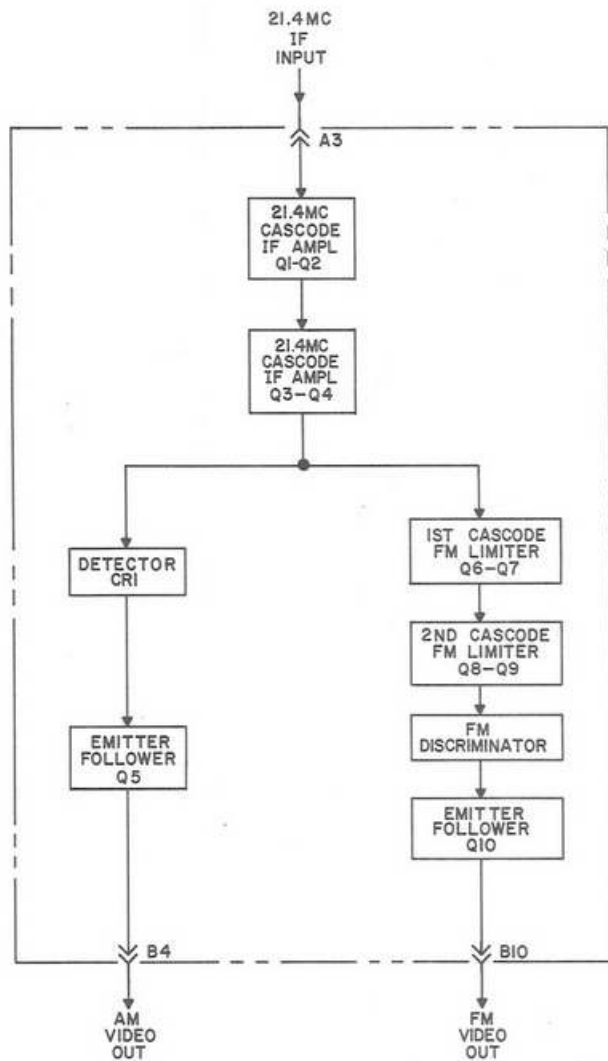

Figure 4-3. IF Amplifier, IF-212-500, Functional Block Diagram.
- (3) Isolation Amplifier, ISA-202: Isolation amplifier module A3 couples the local oscillator output of tuning head module A1 to an output connector on the front panel of the RF tuner. This output is used for monitoring purposes. When not in use, the output is terminated in a removable 50-ohm captive cap.
- (4) Miscellaneous Circuits: Dial lamp DSI is on when power is applied to the RF tuner. Zener diode CR1 regulates the voltage applied to FINE TUNING control R1. The regulated voltage prevents local oscillator frequency variations due to voltage level changes. All power is applied to the RF tuner from the receiver main chassis supply.
C. IF Amplifier, IF-212-500, Figure 4-3